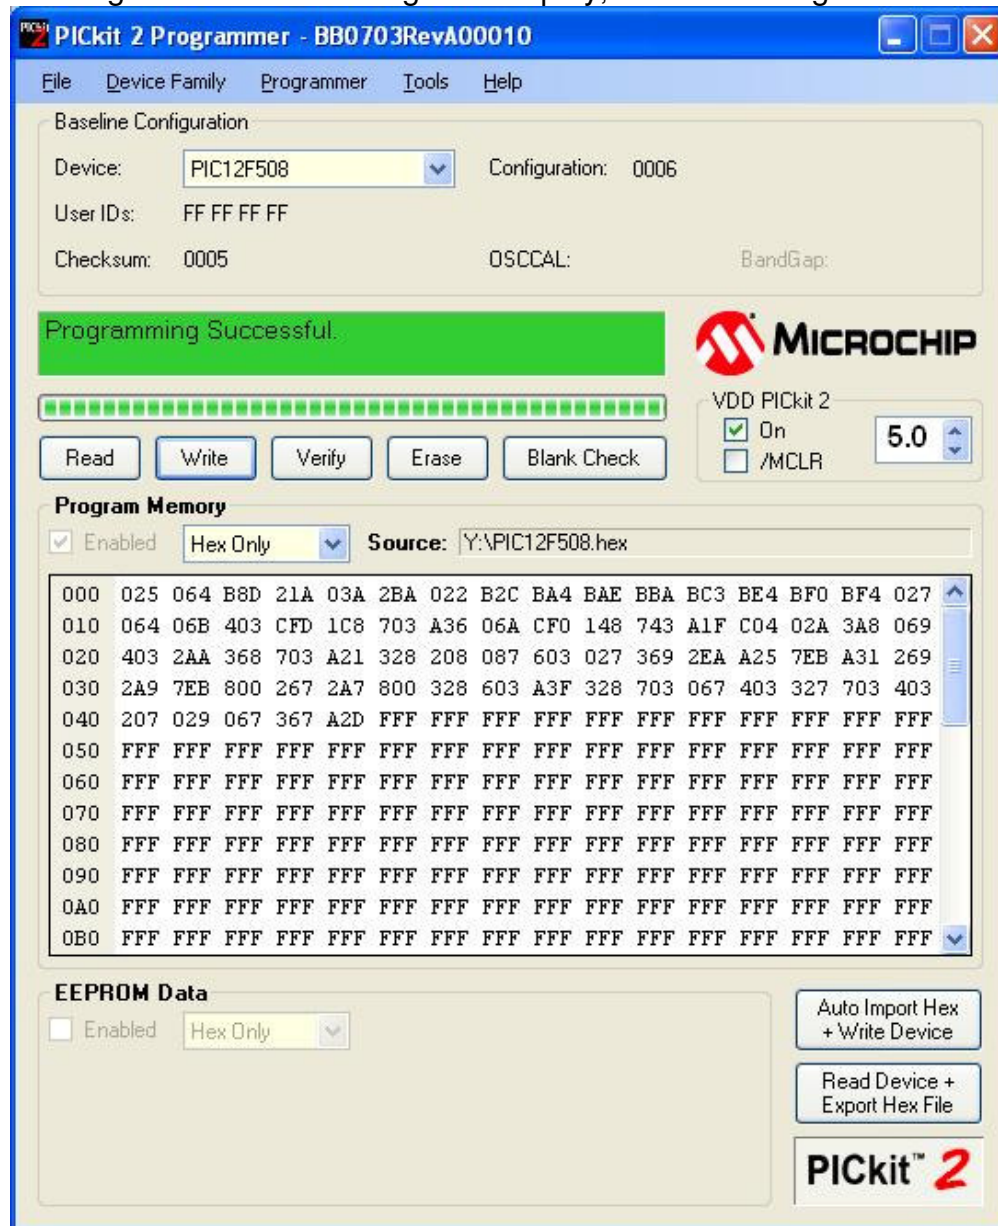

Figure 8 Programming Successfully
4. Click "Write" button, the selected hex file will be programmed into the target chip, and "Programming Successful" message will display, as shown in figure 8.